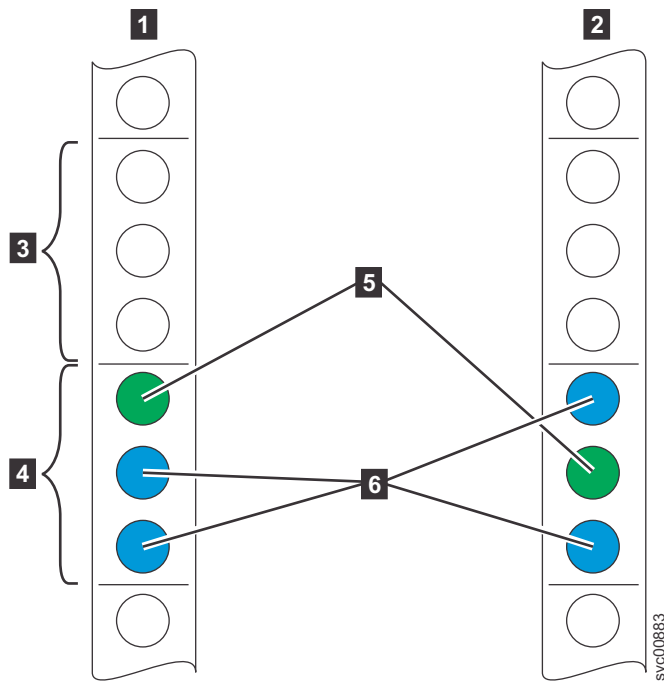

Figure 20. Identifying rack space
1. Select an available 2U space (depending on the node you are installing) in your rack to install your node, as shown in Figure 20 on page 20.